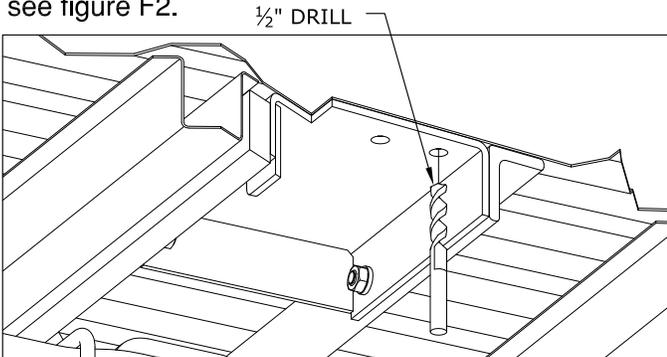

Figure F2: Cut away view from under the bed
1. **Drill the holes.** From under the bed use a drill and a  $\frac{1}{2}$ " drill bit to drill through the bed using the four holes that match up with a low rib in the truck as a guide. Remove any burrs created during the drilling process, see figure F2.